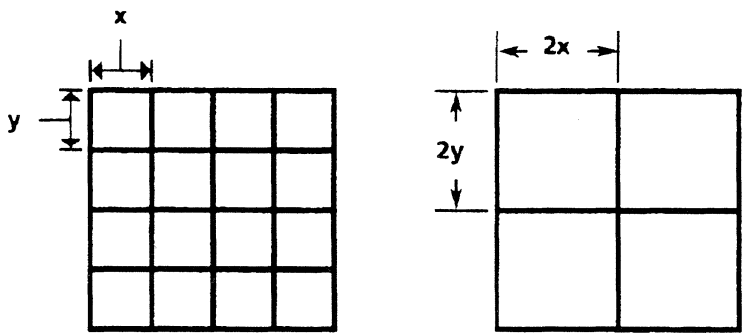

Figure 2-7 **Resolution and pixel size**
(M) Graphic windows may be printed with 1X, 2, or 4X magnification. With 1X (one times) magnification, each bit in the graphic file represents one printed or unprinted dot. With 2X (two times) magnification, each bit in the graphic file represents **two dots in both X and Y directions**. Thus, the number of bits required to cover a given area is reduced by a factor of 4. Similar calculations may be performed for 4X magnification, using a factor of 16. The resulting image is coarser, but requires one-fourth the storage area in memory. This relationship is shown in Figure 2-7 and Table 2-8.